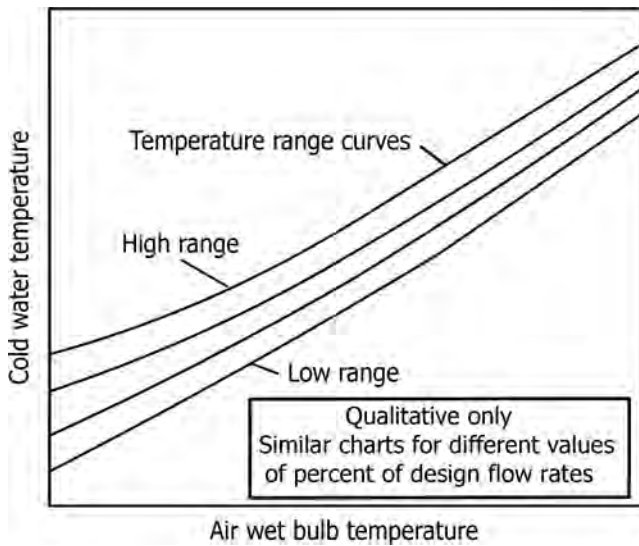

FIGURE 18.20 Cooling tower performance curves.
- The curves (Figure 18.20) are between wet bulb temperature and cooling water temperature, with range as parameter. Separate curves for separate flow rates.